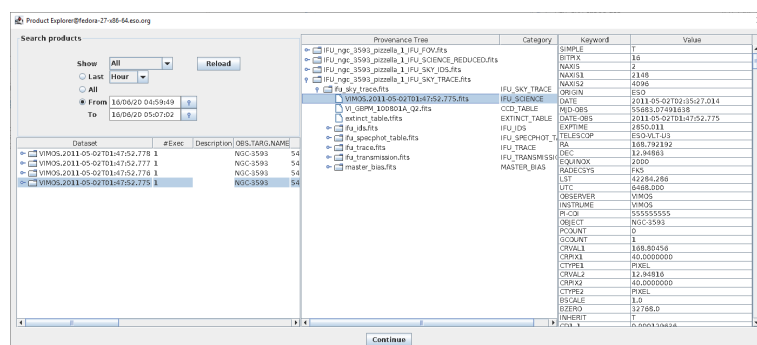

Figure 3.4: *The Product Explorer shows all datasets reduced in previous executions together with the full reduction chain for all the pipeline products.*
9. Once the reduction of all datasets has finished, a pop-up window called *Product Explorer* will appear, showing the datasets which have been reduced together with the list of final products. This actor allows the user to inspect the final data products, as well as to search and inspect the input data used to create any of the products of the workflow. Figure 3.4 shows the *Product Explorer* window. A full description of the *Product Explorer* will be presented in Section 6.3.5.